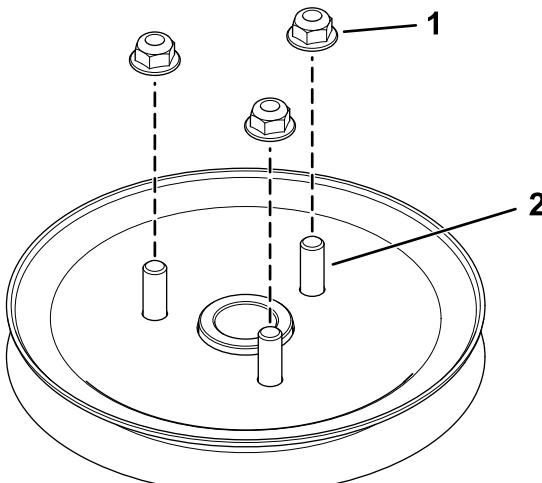

Figure 9
3. Loosely install the 3 nuts to the studs (Figure 9).